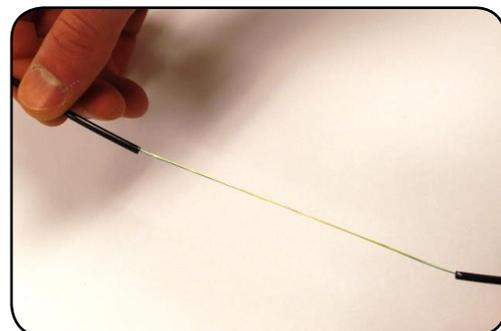

Figure 3
**Step 3:** Pulling from the cable, pull the 3mm jacket off in a straight line (**Figure 3**).